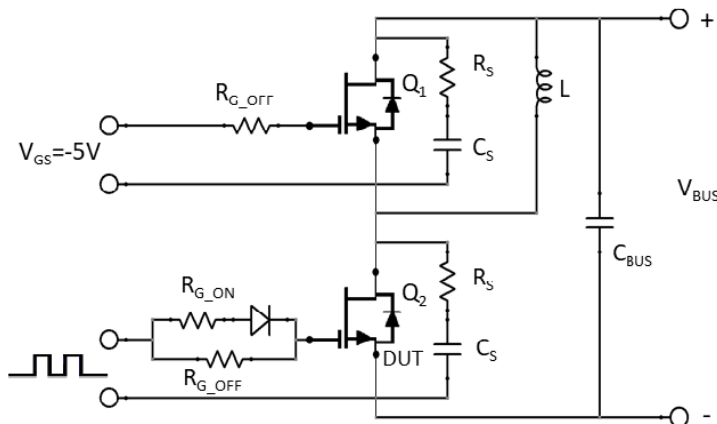

Figure 29. Clamped Inductive Load Switching Test Circuit. An RC Snubber ($R_S = 5$ Ω and $C_S = 100$ pF) is required to Improve the Turn-off Waveforms.
4. The switching performance are evaluated with a RC snubber circuit as shown in Figure 29.